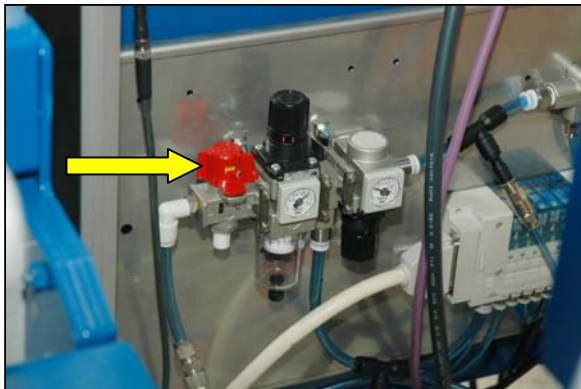

Figure 19 ATS-2400 compressed air supply
- ▶ Check if the compressed air supply system is switched on. If required, open the main tap (see Figure 19).